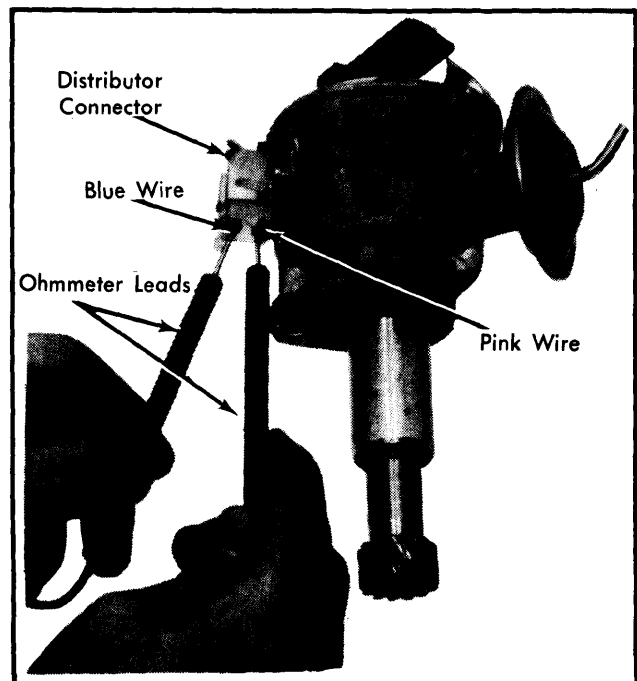

Fig. 8 Checking Pulse Generator Resistance (Models with Externally Mounted Ignitors)
10) On models other than those listed in step 8), check resistance of pulse generator by connecting ohmmeter leads across blue and pink terminals at distributor connector. See Fig. 8. Resistance should measure 800-1200 ohms. If not, replace pulse generator. If within specifications, but system still does not operate, replace ignitor and repeat test.